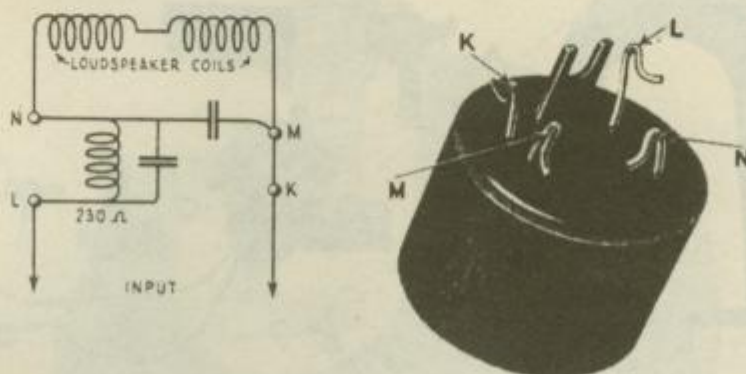

Figure 10—Schematic circuit of Loudspeaker 103 coils and filter and photo of filter unit
A defective filter unit or a filter unit not properly connected in the circuit will cause distortion. Defective magnet coils will also cause imperfect reproduction. The circuit diagram and correct connections are shown in Figure 10. The reference letters in the circuit diagram refer to the filter terminals shown in the small halftone illustration in Figure 10. These should correspond electrically, otherwise distorted or no reception will occur. A click test will indicate whether or not the unit is electrically O. K. The following continuity will indicate an electrical defect either in the coils or in the filter unit.
Remove all connections and refer to Figure 10
- (g) Solder coil leads to filter unit as indicated in Figure 10. At this point it is good practice to test the mechanism on a receiver of good quality and make any further adjustments that may be necessary.